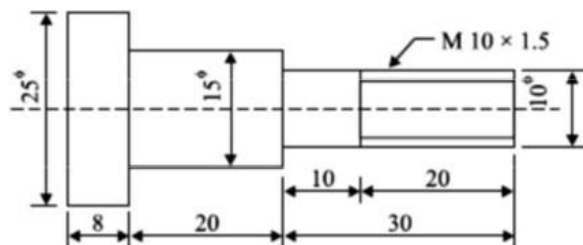

Fig. 6
8. Calculate the machining time required to produce one piece of the component shown in Fig.6 given below starting from f 25 mm bar. The following data is available. For turning: Cutting speed = 40 m/min. Feed = 0.4 mm/rev. Depth of cut = 2.5 mm/per pass. For thread cutting: Cutting speed = 8 m/min.